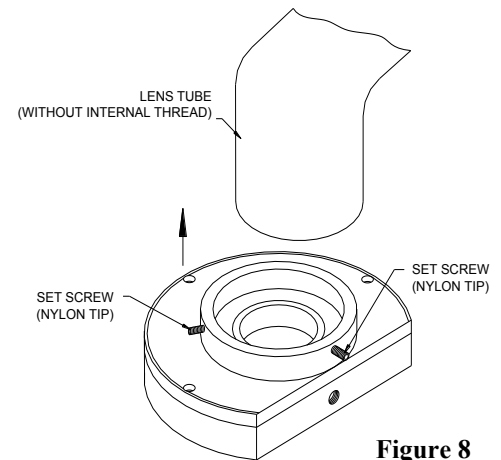

Figure 8
Attach the shutter case with dovetail ring assembly to the lens tube, as shown. Rotate the case to desired position, use (3) set screws to securely hold shutter in place. (see Figure 8)